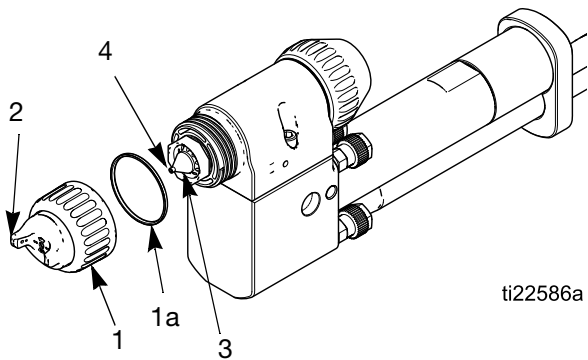

FIG. 21. Clean Air Cap and Fluid Nozzle
3. Remove the retaining ring (1) and air cap (2). See FIG. 21, page 32.
4. Wipe the fluid nozzle (3) and the exterior of the gun clean with a cloth dampened in solvent. Avoid getting any solvent into the air passages. Whenever possible, point the gun down when cleaning it.
5. If it appears that there is paint inside the fluid nozzle (3) air passages, remove the gun from the line for servicing.
6. Clean the air cap (2) with the soft bristle brush and solvent, or submerge the air cap in a suitable solvent and wipe it clean. Do not use metal tools.
7. Carefully install the air cap (2). Be sure to insert the electrode (4) through the center hole of the air cap.
8. Rotate the air cap (2) to the desired position.
9. Make sure the u-cup (1a) is in place on the retaining ring (1). The lips must face forward.
10. Tighten the retaining ring (1) until the air cap (2) is held firmly in place; you should not be able to rotate the air cap horns by hand.